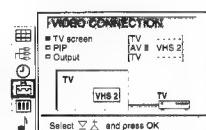

Fig. 48
- 1 Select the symbol for «Video Connection» with or and press OK. The VIDEO CONNECTION menu appears. (See Fig. 48)